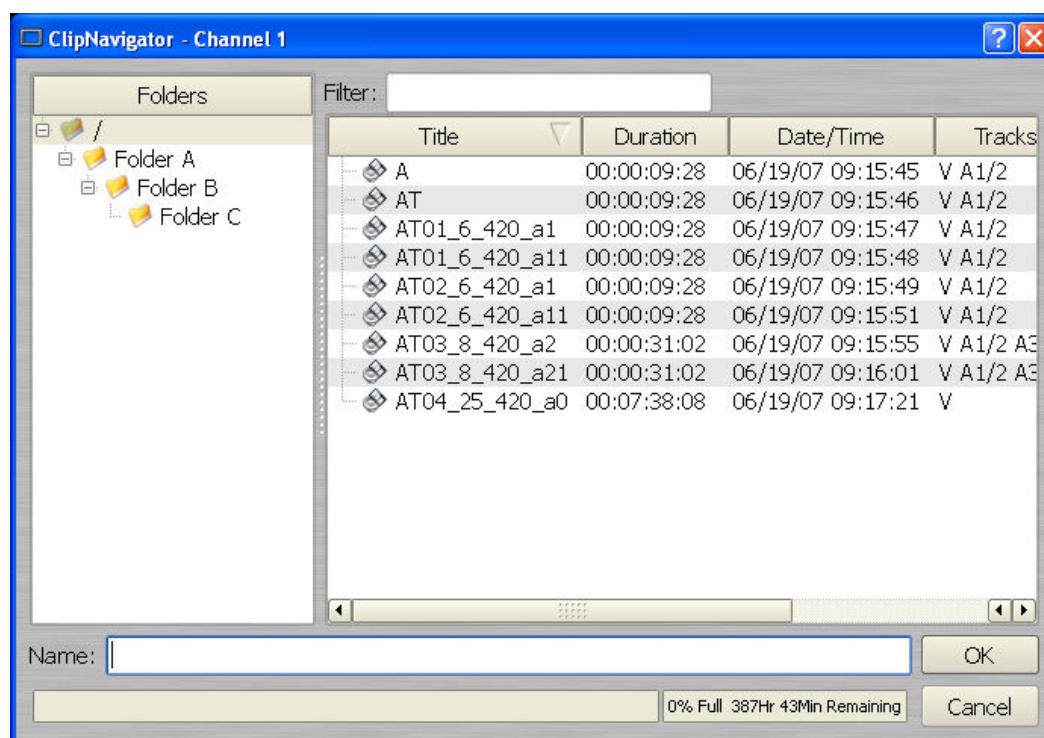

Figure 7 - Channel 1 Clip Navigator "New" mode
- A. From the Channel 1 Transport Window, Select **FILE > NEW**. The dialog of Figure 7 appears.